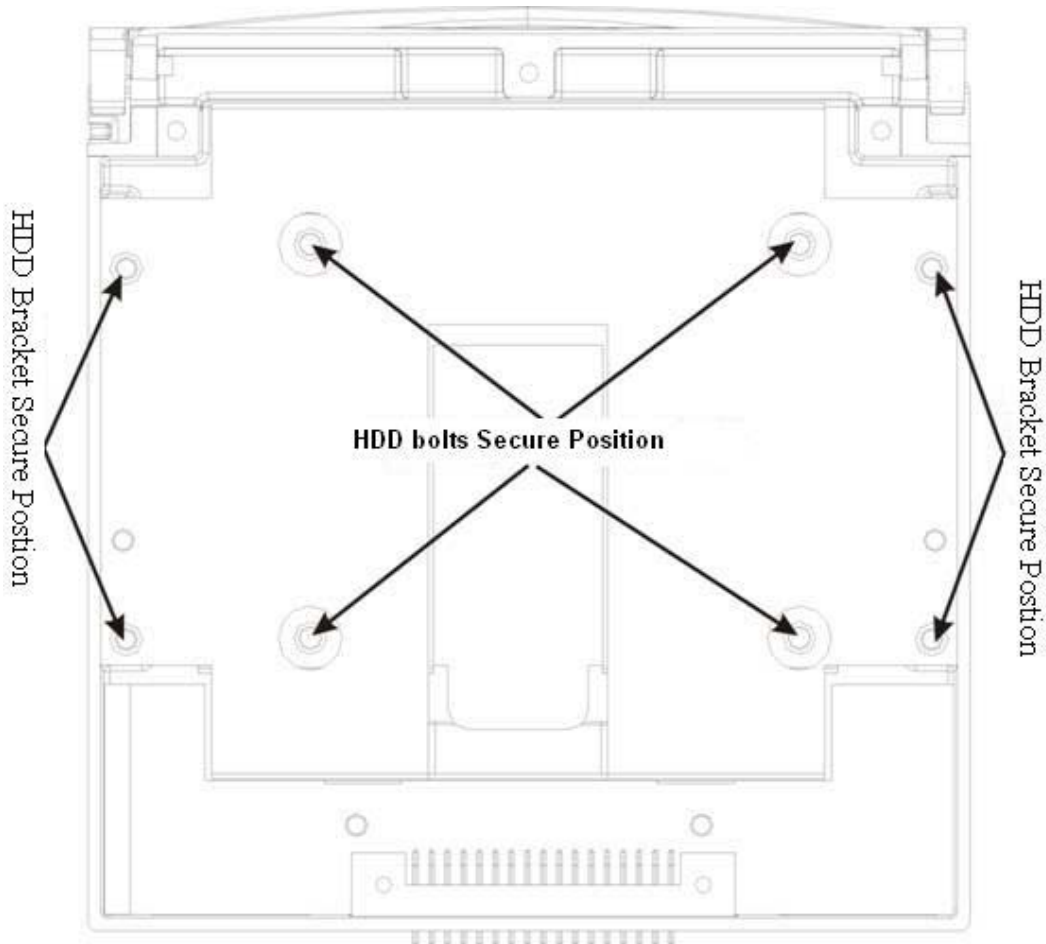

Figure 2-14
2) Now you can see an interface shown as in Figure 2-14 . Remove the four bolts from the HDD bracket and then draw out the bracket from the HDD box. Pull out the cable from the cable exit.